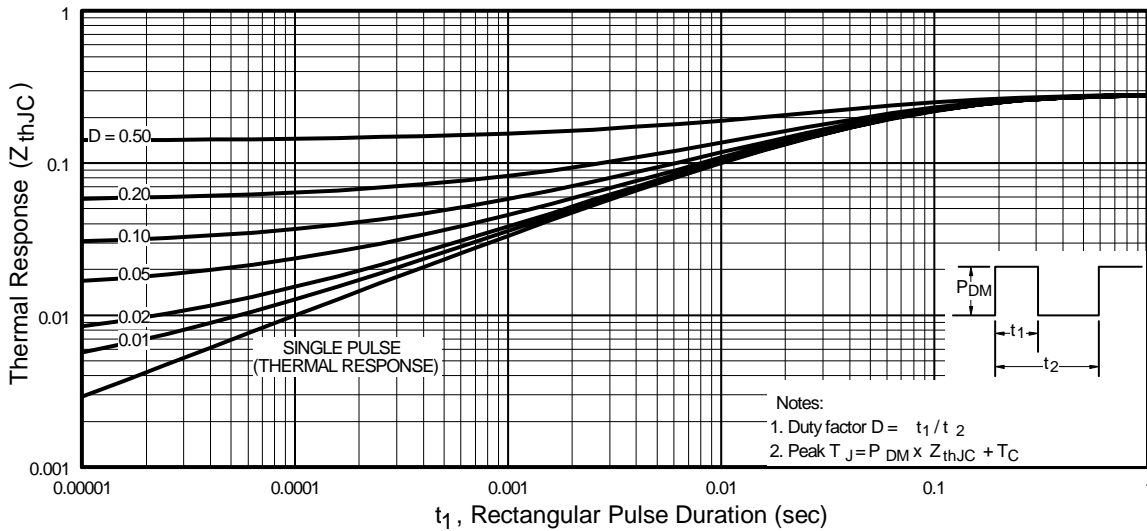

Fig 11. Maximum Effective Transient Thermal Impedance, Junction-to-Case
- ① Repetitive rating; pulse width limited by max. junction temperature. (See fig. 11)
- ② Starting $T_J = 25^\circ\text{C}$, $L = 1.94\text{mH}$